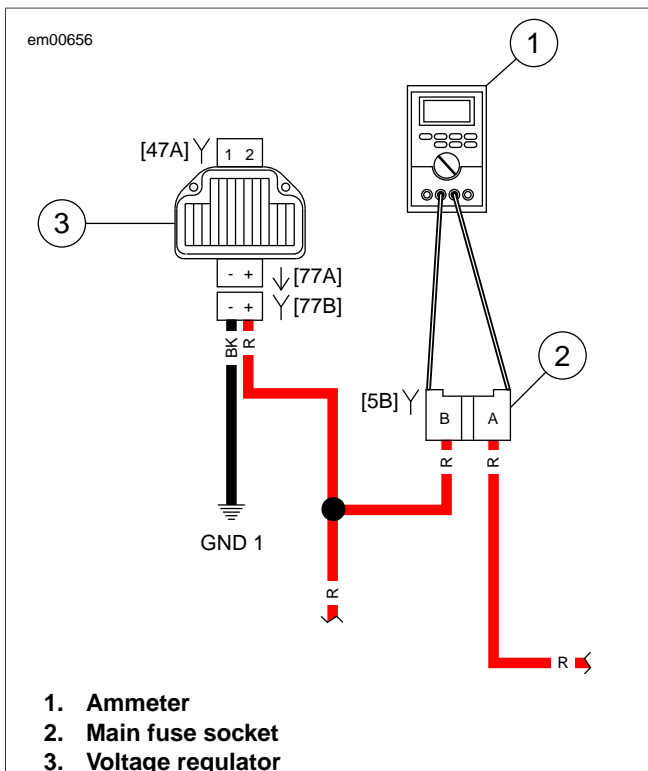

Figure 3-10. Milliampere Draw Test (Ignition Turned to OFF)
4. See Figure 3-10. Using HARNESS CONNECTOR TEST KIT (Part No. HD-41404), connect ammeter to main fuse socket terminals. With this arrangement, you will pick up any drain.